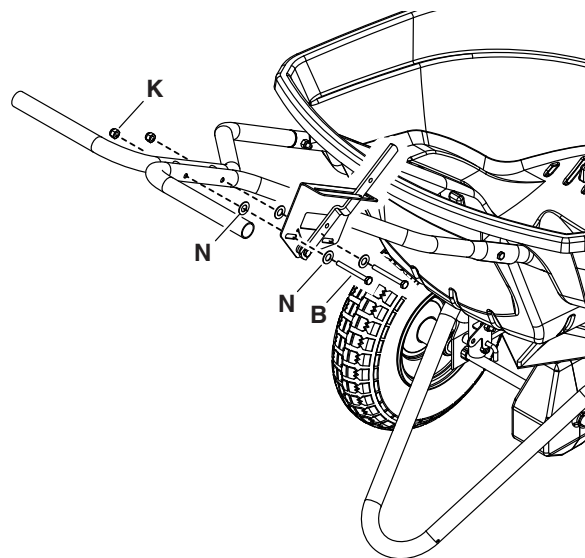

Figure 12
STEP 12: (SEE FIGURE 12)
- Attach the flow control bracket (9) to the handle tubes using two 1/4" x 2-3/4" hex bolts (B), four 1/4" washers (N) and two 1/4" nylock nuts (K). **Do not tighten yet.**